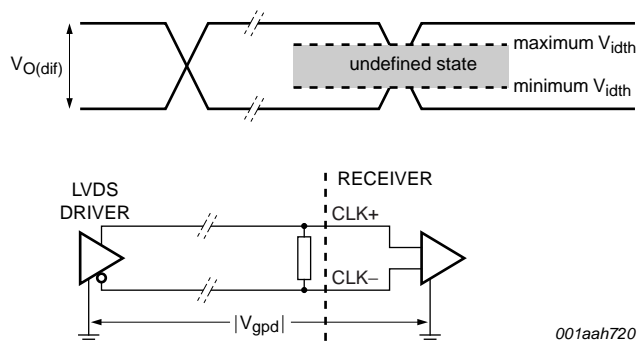

Fig 3. LVDS clock input
- LVDS mode: CLK+ and CLK– inputs are at differential LVDS levels. An external resistor of between 80 Ω and 120 Ω is required; see Figure 3.